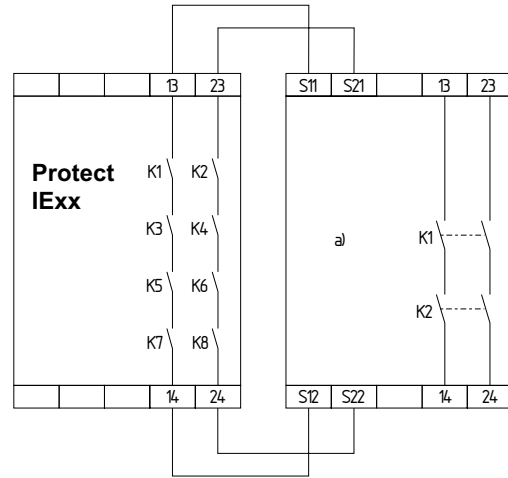

Fig. 10
**Enabling circuits (Fig. 10)**